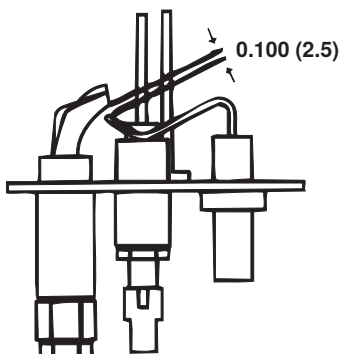

Figure 33. Pilot Assembly Spark Gap
4. Check the spark gap (see Figure 33), which should be maintained to 0.100 inch (2.5 mm).
- c. Verify that pilot spark gap (see Figure 33) is approximately 0.100 inch (2.5 mm).